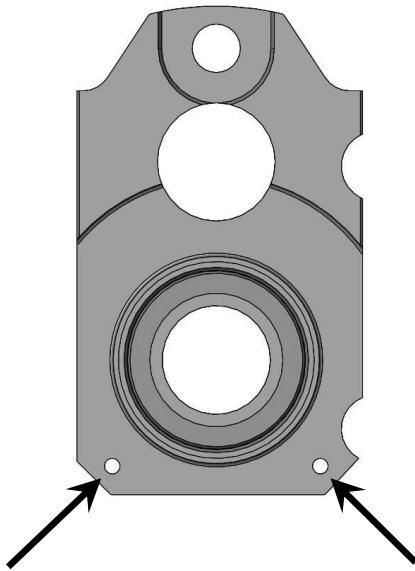

Figure 2a – Hole Modification Location
5. Drill the lower two threaded holes in the axle housing flange to 3/8". Using a 3/8" drill bit, drill the lower two threaded bolt holes to allow fitment of the new mounting hardware. Make sure you deburr the edges of the holes after you drill them so that the mounting hardware and Caliper bracket set flat. Refer to figures 2a and 2b below for reference on drilling the holes.